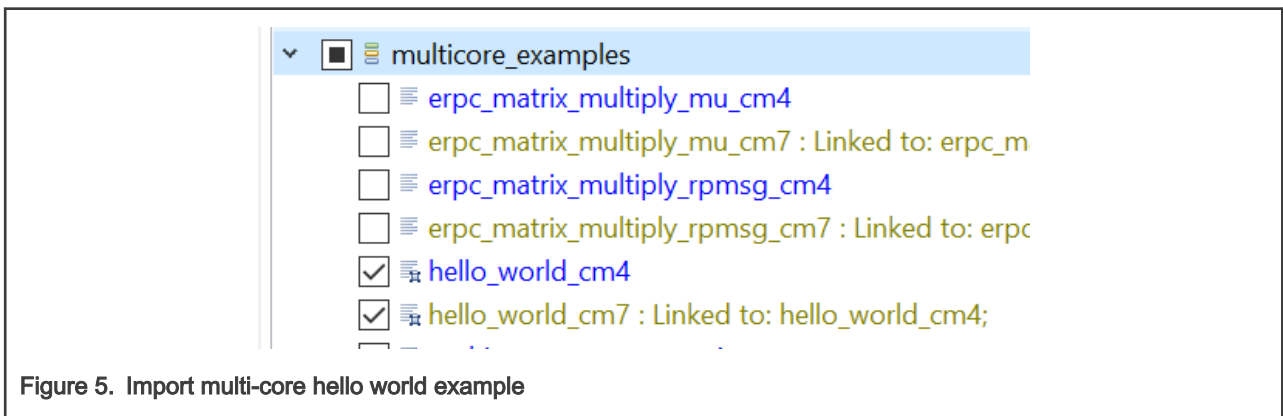

Figure 5. Import multi-core hello world example
1. Import multi-core hello world example, as shown in Figure 5.